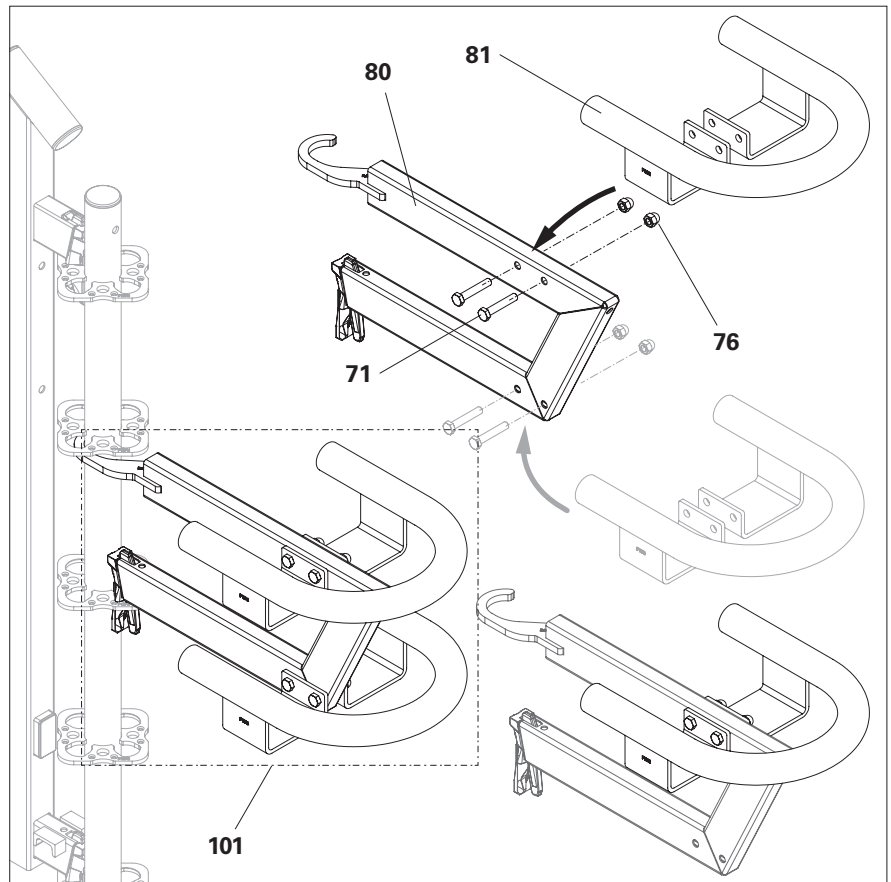

Fig. D1.01
1. Assemble Handrail Support Start PESS (**80**) with one or two Handrail Tube Start PEHS (**81**), as well as 2x or 4x Bolts M10x55 (**71**) and Cap Nuts M10 (**76**) to form a single or double-run handrail start (**101**). (Fig. D1.01)